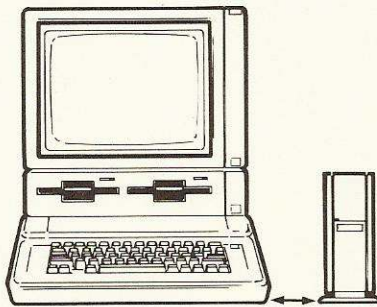

Fig. 8 Allow minimum of 2 inches on all sides for proper ventilation.
| Figure 8 | Sider Ventilation 2 - 1 |
- * **Proper ventilation for your Sider, as depicted in Figure 8. The Sider doesn't have a cooling fan; it maintains its operating temperature by convection cooling. Allow a minimum of two inches on each side of the subsystem, and never place anything on top of it. Improper ventilation can cause damage to the subsystem, rendering it inoperable.**